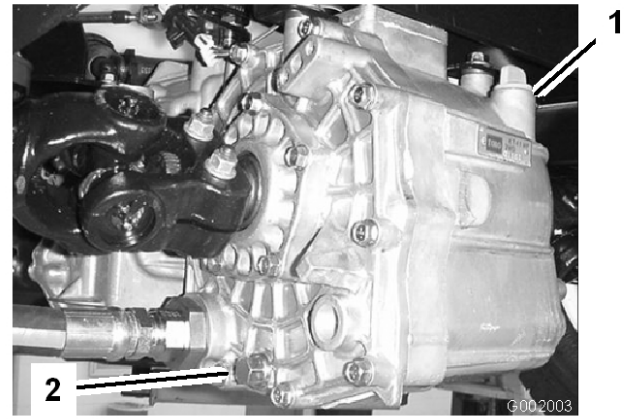

Figure 67
3. Remove the drain plug from the side of the reservoir and let the hydraulic fluid flow into the drain pan (Figure 67).